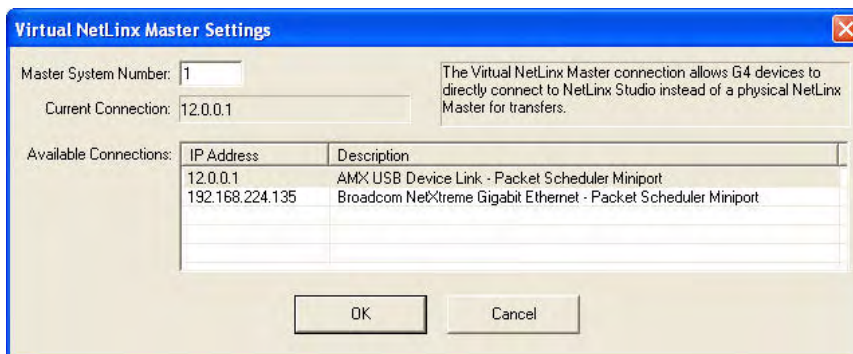

FIG. 82 Virtual NetLinx Master Settings
- Click the **Edit Settings** button on the *Communications Settings* dialog to open the *Virtual NetLinx Master Settings* dialog (FIG. 82).